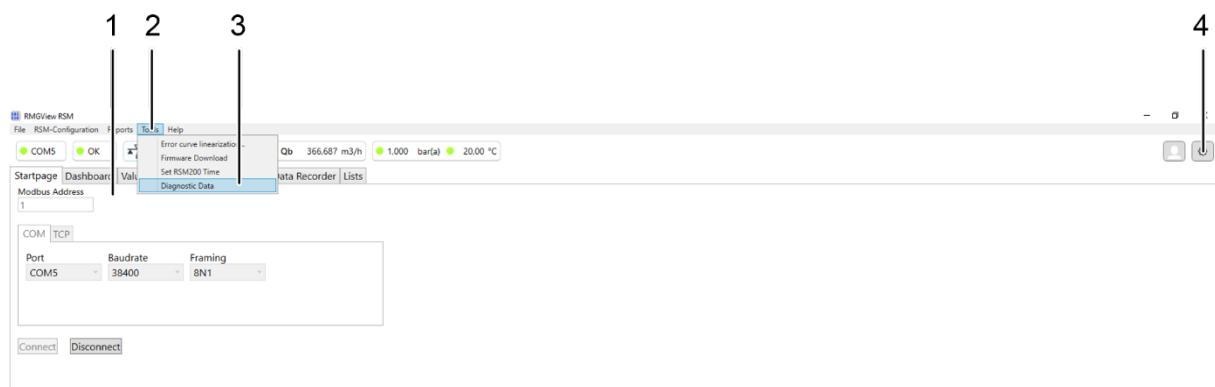
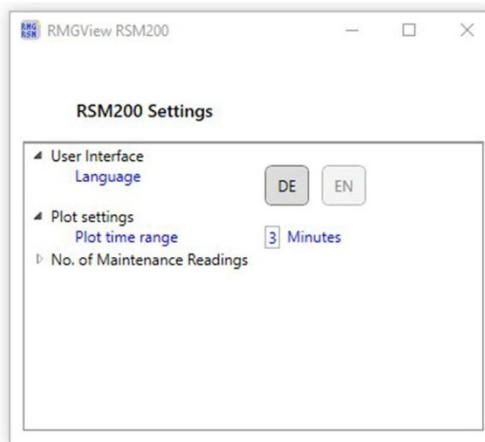

Figure 28: Start screen RMGView^{RSM}
Figure 30: Settings window
1. Open the RMGView^{RSM} start screen (figure 28, item 1) as described in section 6.5.1.
2. Select the Tools tab (figure 28, item 2). A selection menu opens.
3. Select **Diagnostic Data** (figure 28, item 3), the corresponding window opens.
The number of maintenance data records can be changed by pressing the **Settings** button (figure 28, Pos. 4). The corresponding window will open (see figure 30).